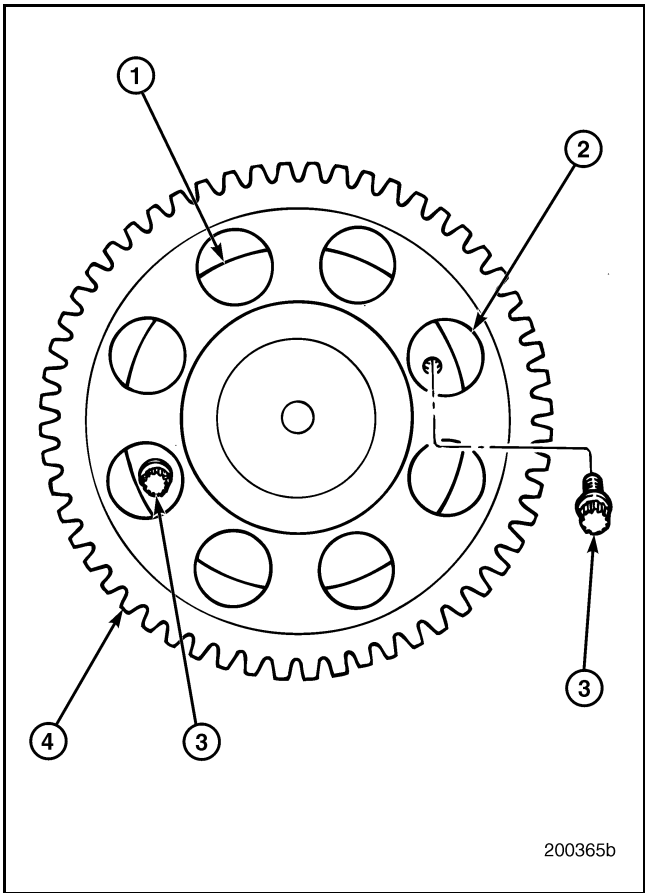

Figure 177 — Camshaft Thrust Washer Capscrews
3. Remove the two 12-point capscrews that retain the camshaft thrust washer. The camshaft may have to be rotated slightly to make the capscrews accessible through openings in the camshaft drive gear (Figure 177).